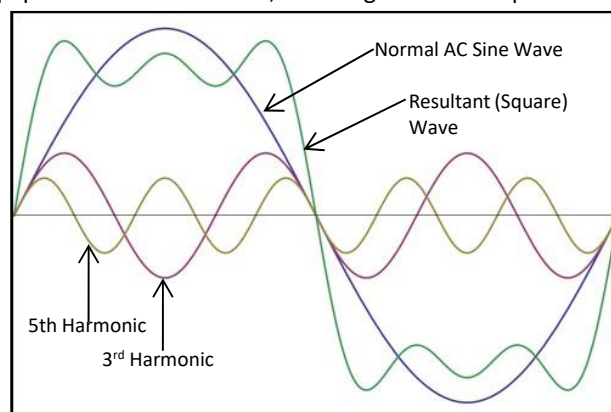

Figure 2- Example of the effect of harmonic distortion on an AC Sine Wave.
-  Separation of Earth and Neutral Conductors^{vi}. Although these two conductors are for example both joined together on the star side of a supply transformer, the Neutral is a current carrying conductor, while the earth conductor is for protection only and should be left current free^{vii} (Figure 2). Using the same conductor for both E and N will reduce the effectiveness of any surge protection installed in the system. Accidental disconnect of the conductor, if a shared conductor is used for E and N, a single phase 110 V or 220 V systems might experience a power increase up to 240 V or 400 V, which will fry your equipment.